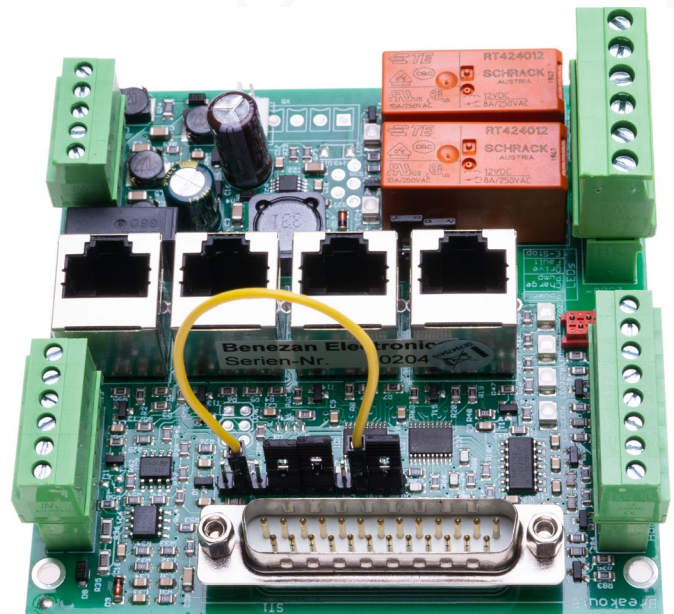

Fig. 15: Jumper setting for use with EdingCNC
- 2-9, 4-5, 6-7, 10-11 (see Fig. 15)